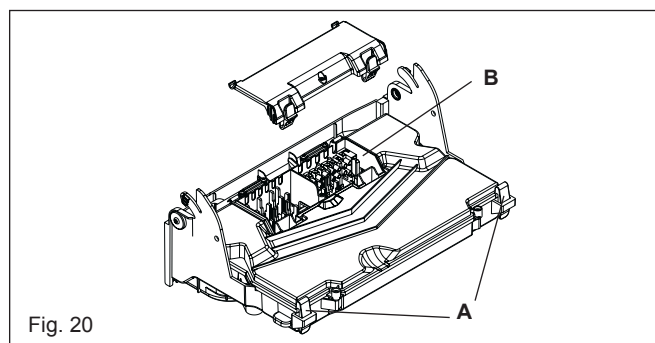

Fig. 20
6.8 PRINTED CIRCUIT BOARD (fig. 20)